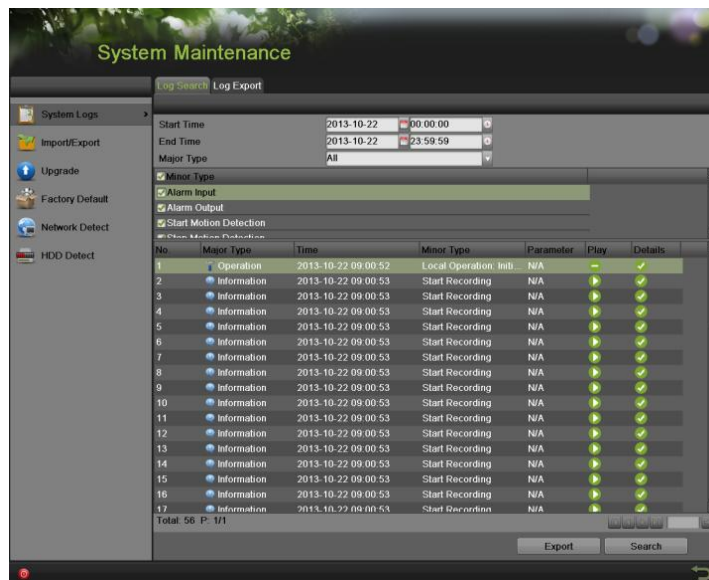

Figure 174 Log Search Results
5. Click the Search button. The search results will be displayed in a list (Figure 174). Click  to page up and down.